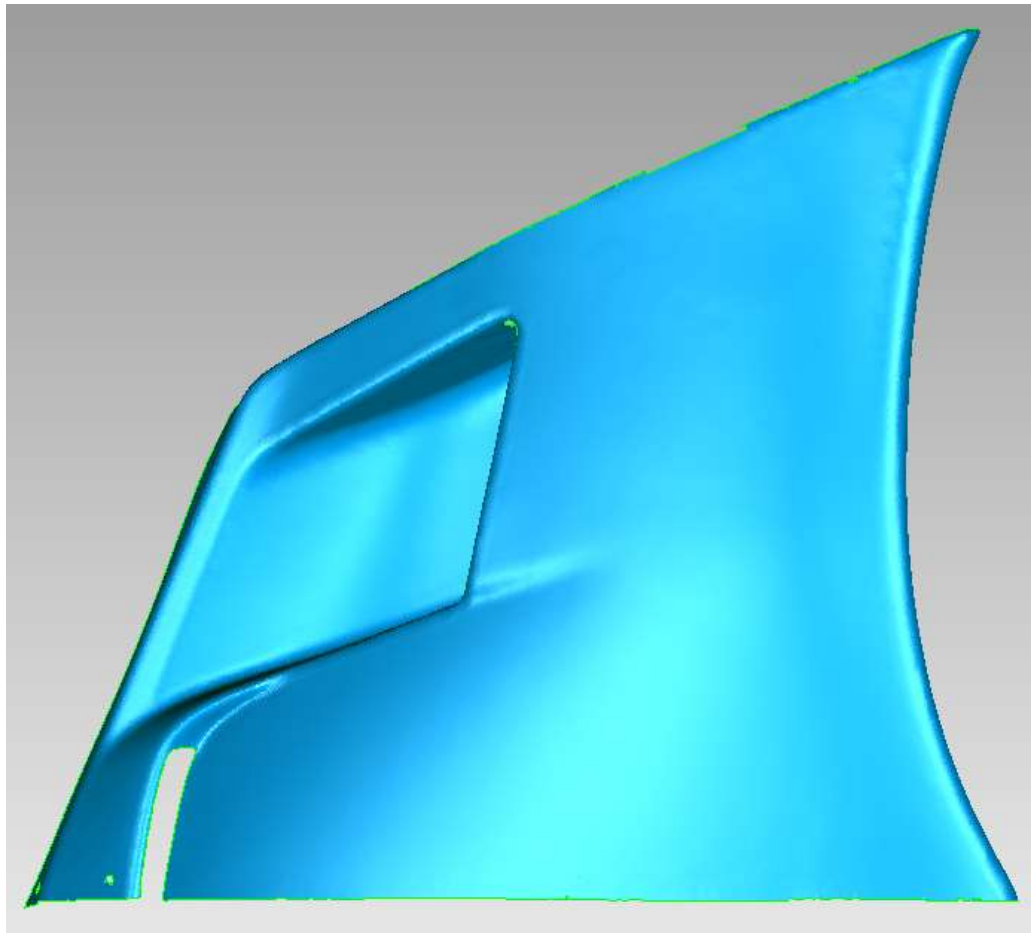

Figure 95
2. **Zoom, Pan** and **Rotate** the fairing, it should look similar to **Figure 95**.